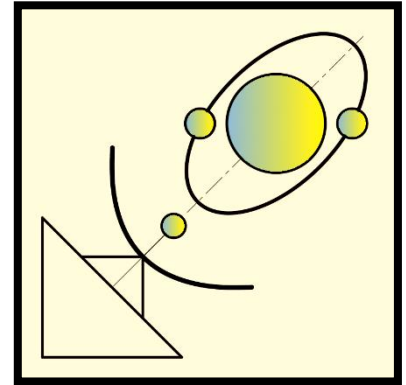
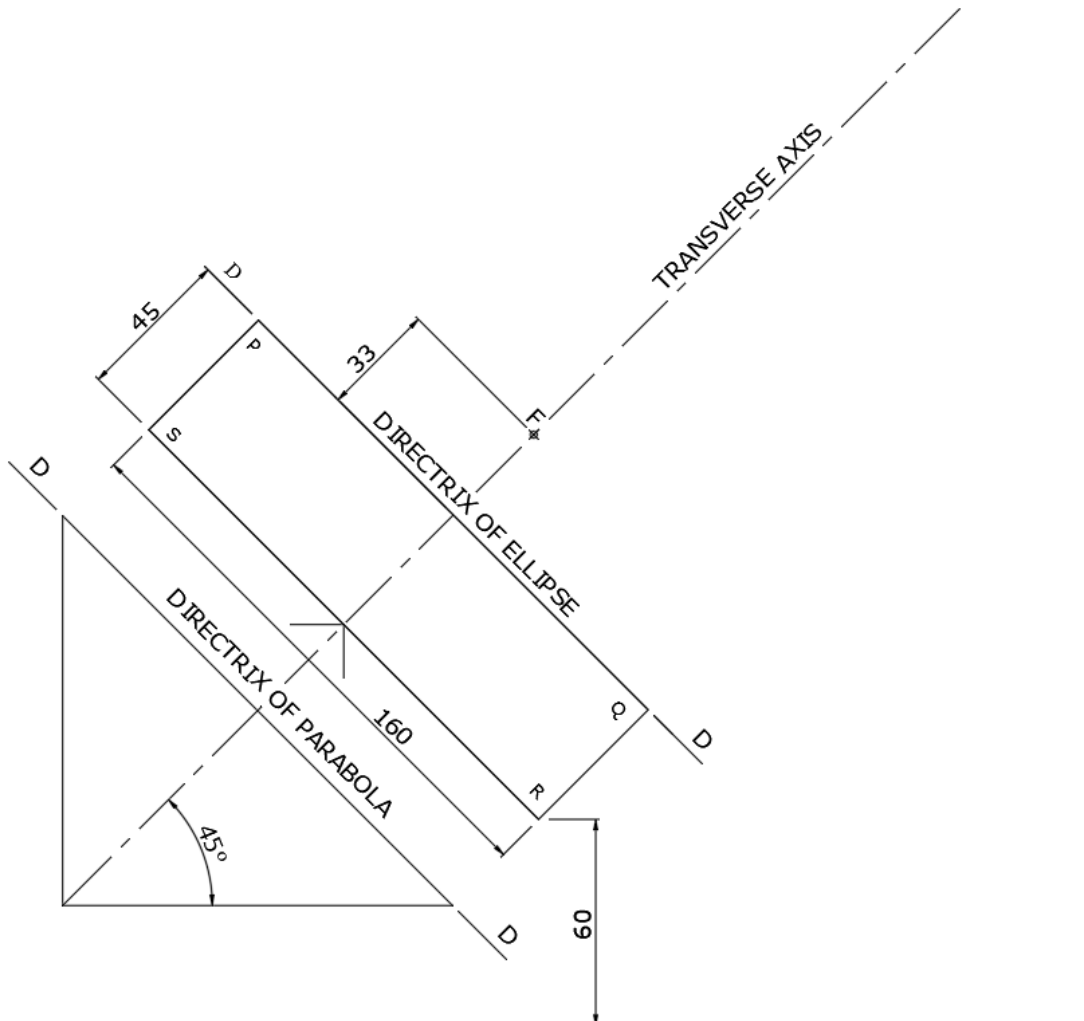

Figure 5a
Figure 5b
A satellite communication poster is shown in Figure 5a. The poster consists mainly of two conic sections. A parabola representing the transmitter and an ellipse to represent satellite orbit. Figure 5b shows the layout of the starting lines of the two conics.
- As indicated in Figure 5b, the upper side of the rectangle is also the directrix of the ellipse.